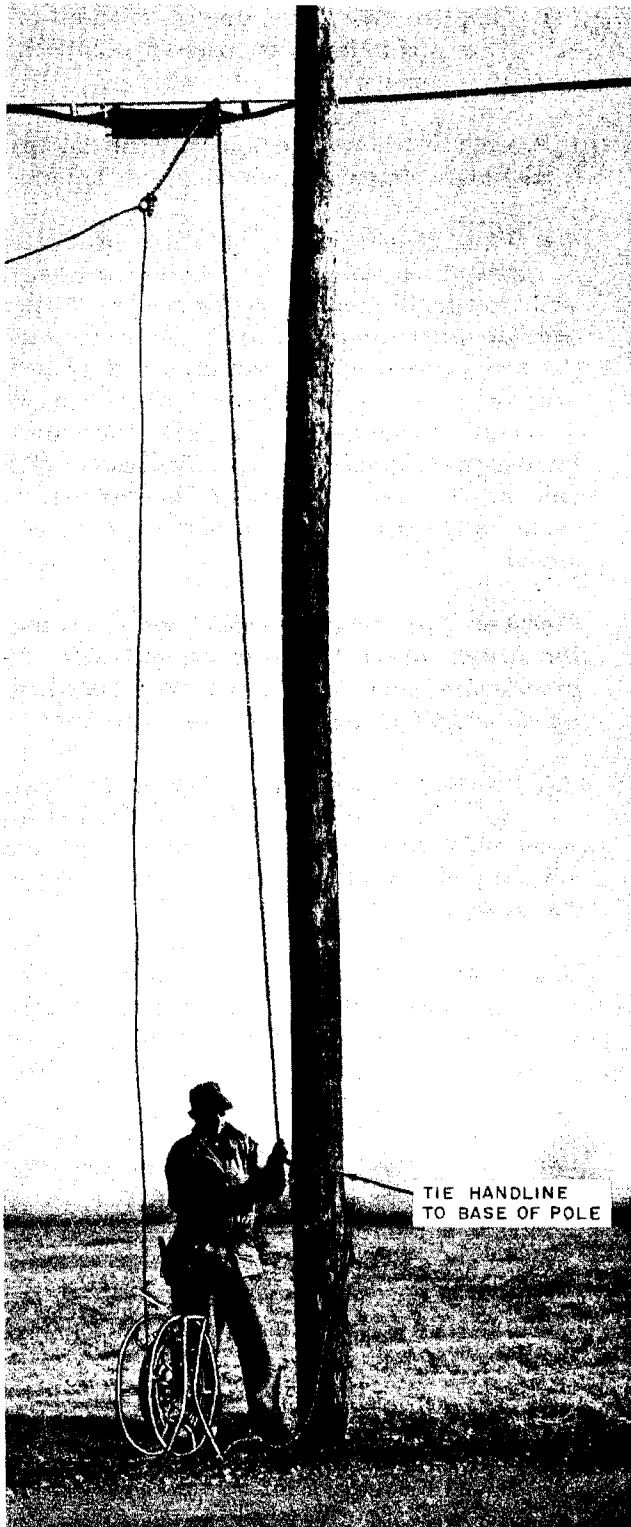

Fig. 5 — Drop Wire Raised to Approximate Height
(8) After the drop wire has been raised to the approximate required height, lash the handline near the base of the pole or, at a span clamp, to the lower rungs of the ladder as shown in Fig. 5.
(9) Climb the pole or, if at a span clamp, the ladder, and attach the drop wire to the pole or strand in a standard manner without removing the handline from the drop wire. When attaching the drop wire to a span clamp, bear in mind that the strand is forced out of line by the ladder resting against it and make any adjustments that are necessary to avoid excessive tension in the wire span when working from the ladder and also to ensure proper sag and clearance after removal of the ladder.
(10) Remove the handline from the drop wire. Cut the wire, leaving a sufficient length to reach the terminating point, and complete the connection in a standard manner.